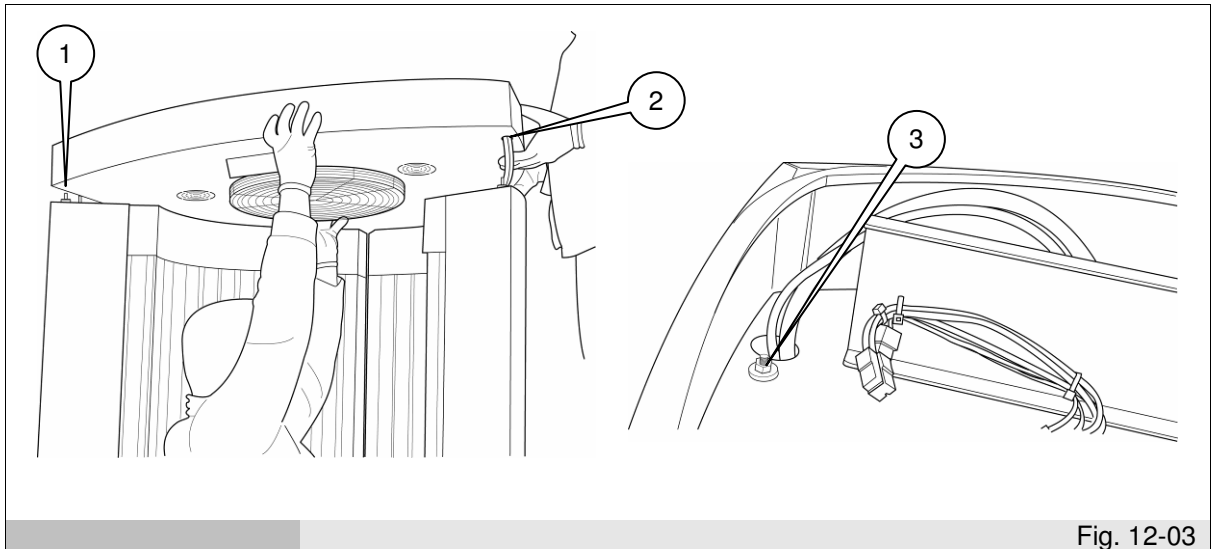
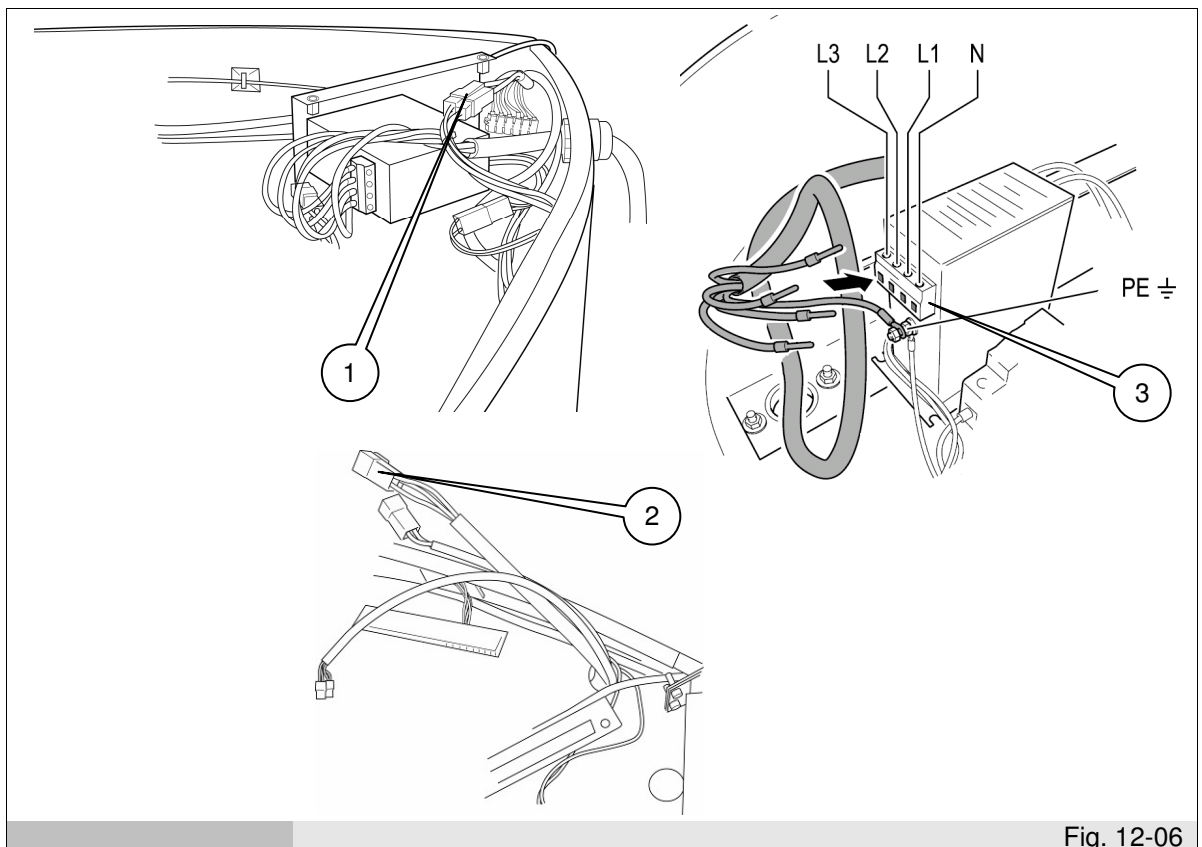

Fig. 12-03
Fig. 12-06
- Lift the roof and place it on the walls, inserting the M6 supports (ref. 1 fig. 12-03) on the walls in the holes in the roof; when positioning the roof, make sure the cables pass through the guide holes (ref. 2 fig. 12-03). When the roof is correctly positioned on the walls, insert the washers and M6 nuts on the M6 supports jutting through the roof (ref. 3 fig. 12-03); fit the nuts on loosely at first so that the roof can then be raised to facilitate insertion of the door.
- Make the connections, connecting the roof's terminals to those on the walls and door (ref. 1 fig. 12-06). Attach the roof to the side walls by fully screwing down the washers and M6 nuts (ref. 2 fig. 12-03) loosely applied earlier on.
If the appliance was supplied with vibrating plate (optional), make the connections by connecting the roof's terminals with those on the left-hand wall to make the vibrating plate's electrical connection (ref. 2 fig. 12-06).
- Connect the power cable to the network filter (ref. 3 fig. 12-06).
- Fully tighten all the M6 nuts (ref. 3 fig. 12-03) attaching the roof to the walls and that were only loosely fitted beforehand to facilitate door installation.